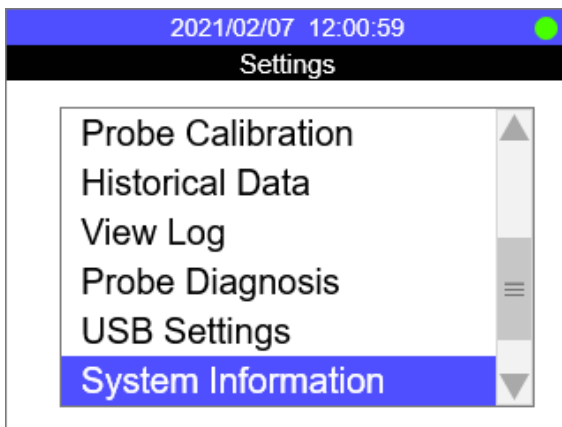

Figure 6. Settings
8) Select **Probe Calibration** from the Settings screen as shown in Figure 6. Then select **Zero cal** as shown in Figure 8.
Select **Probe Calibration** from the screen shown in Figure 6. Using the same techniques as outlined for zero gas calibration, establish an oxygen containing calibration gas (Pyxis DCC4 = 99.9% Nitrogen / 0.1% Oxygen Gas Cylinder) flow for 15 minutes or until the ppb reading has stabilized. Select **High Cal** and press OK to start the slope calibration. Use the UP/DOWN buttons and OK button to enter the specific oxygen percentage concentration in the calibration gas being used. If the slope calibration is complete, a calibration succeed message will be prompted.